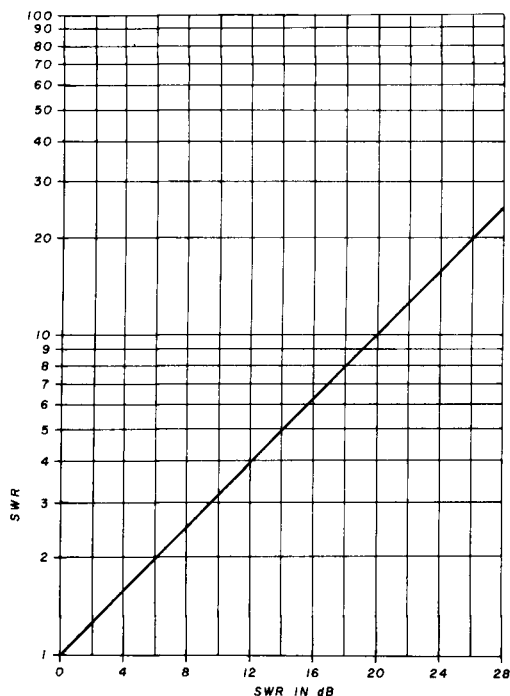

fig. 4. Swr vs swr in dB.
6. Swr in dB can be converted to *swr* by reading the value from the scale on the meter which corresponds to the dB value of *swr*. This relationship is also plotted in **fig. 4**.
9. The *swr*, in dB, is equal to the variable attenuator setting minus the setting used in **step 1**. *Swr* in dB can be converted to *swr* by the following expression, or from the curve of **fig. 4**.